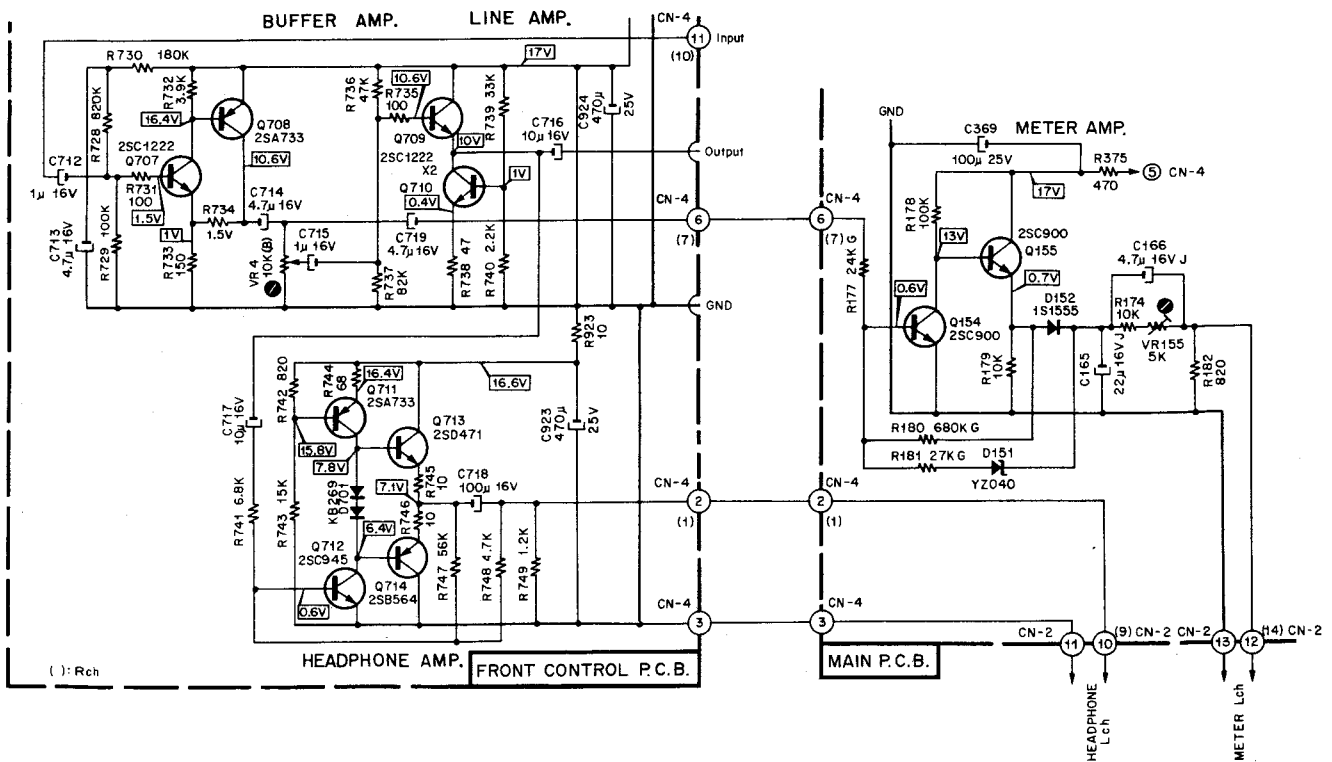

Fig. 2.2.15 Meter Amp. and Line Amp. Circuit Diagram
Fig. 2.2.15 shows the level meter amplifier circuit and the line output amplifier. Terminal CN4-6(7) is the input of the level meter amplifier.